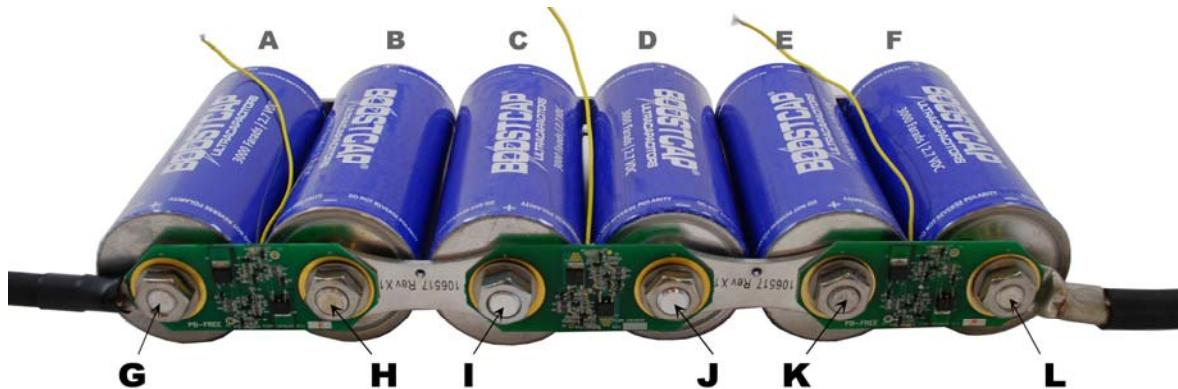
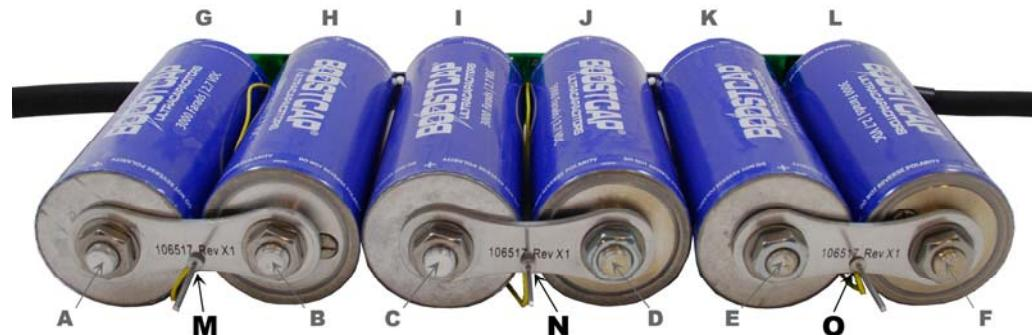

Figure 11
Figure 12
3.2.10 Thread a nut onto each threaded terminals and hand tighten. (G – L, Figure 11)
3.2.11 The 22 AWG wire attached to the voltage management board must be riveted in place with the provided rivet to the buss bar that spans **the same two cells as the printed circuit board** (M, N and O, Figure 12). Those two cells are protected by that one board. E.g.: the wire on the voltage management board spanning terminals G and H in Figure 11 is connected to the rivet on the buss bar spanning terminals A and B.